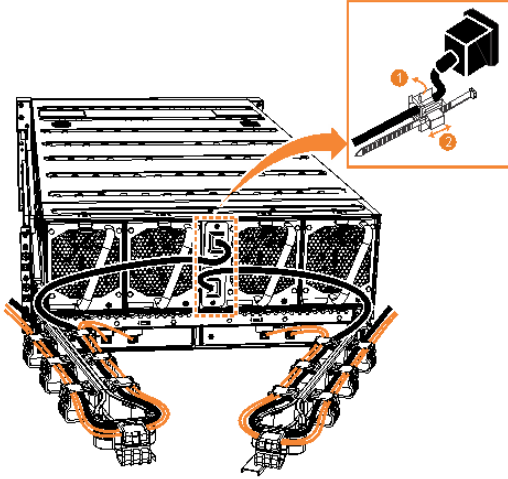

Figure 52. Secure power cables
2. Secure the power cables in the cable retainer at each power connector on the rear of the enclosure, as shown in Figure 52 on page 92. Also, ensure that each cable is installed along one of the cable management arms. The cable management arms also support the SAS cables.